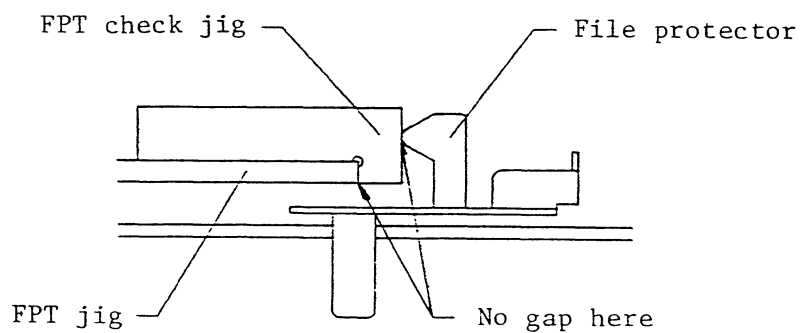

Fig.421 Check of file protect sensor
- (f) Put the FPT check jig on the FPT jig, check if the FPT indicator goes out with the tip of the file protector touching the jig. At this time, be careful not to allow a gap between the FPT jig and FPT check jig (Fig. 421).